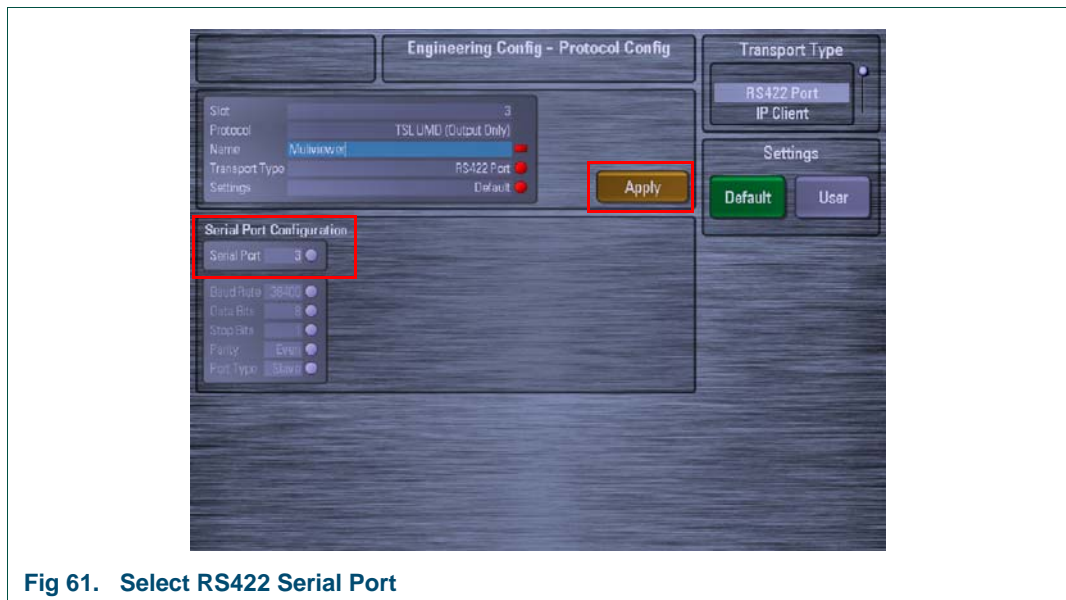

Fig 61. Select RS422 Serial Port
3. The **Engineering Config - Protocol Config** menu is displayed (Fig 61.). Touch the **Serial Port** attacher and then select which port you wish to use on the mainframe and touch the {Apply} button.